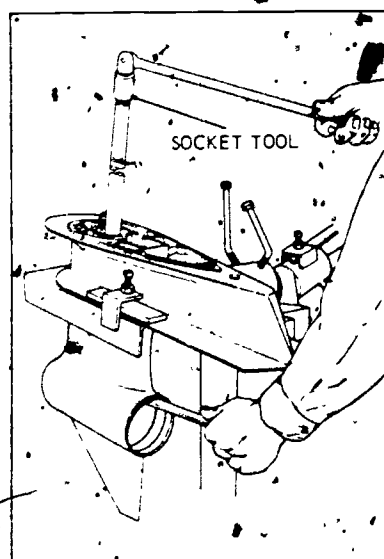

FIGURE 7
- O. Remove pinion gear locknut (Figure 7)